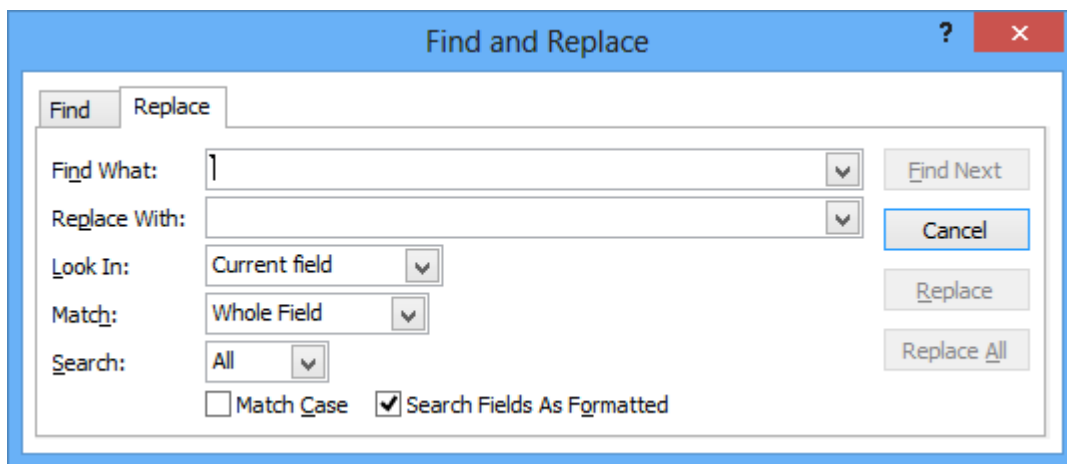

Figure 35: Replace Tab of the Find and Replace Window
8. Replace: If you want to replace the record when you find it, click the **Replace** tab at the top of the window. Type into the Replace With area what you want to replace the record with (Figure 35).